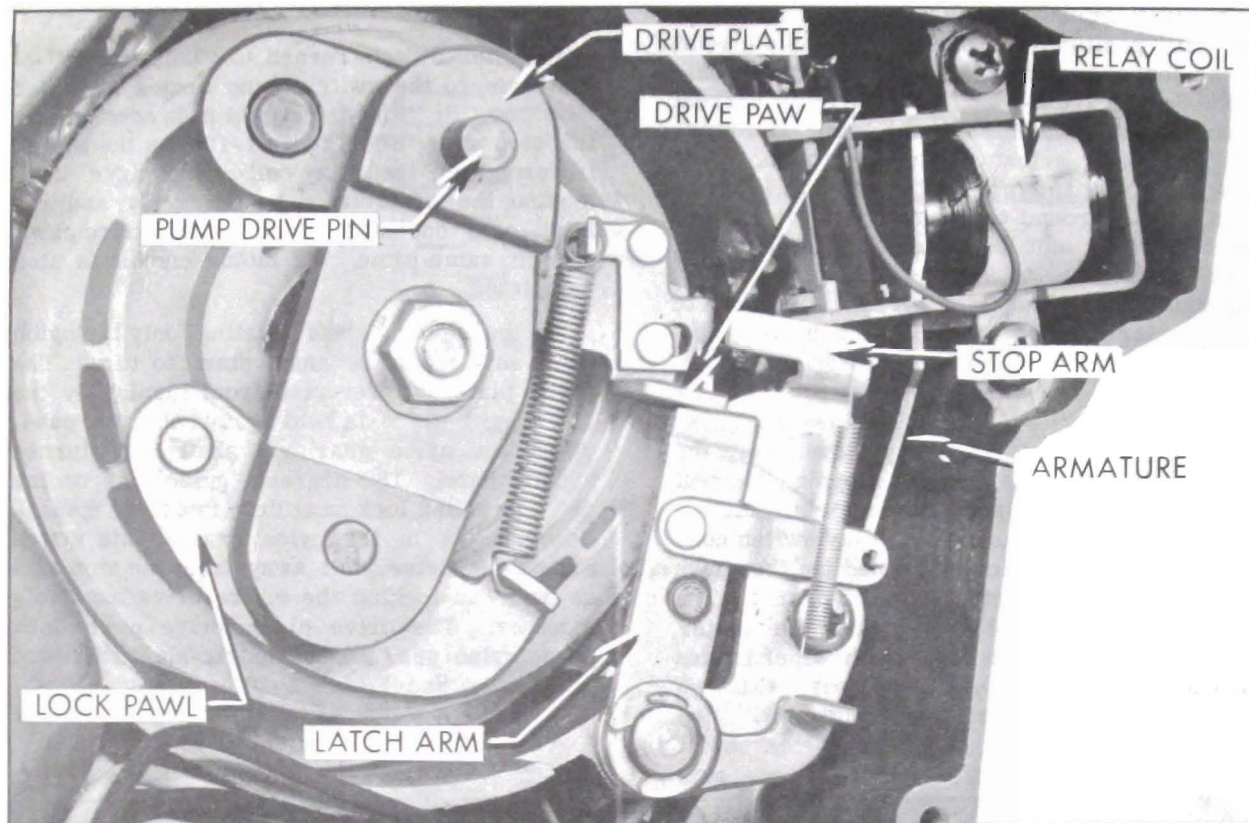

Figure 1-21—Drive Plate Stopped—Motor Running
b. Motor Switch Turned to Off-- As the switch is turned to the off position, the relay circuit is opened with the motor circuit remaining closed. The spring loaded latch arm moves out into the path of the drive pawl since the relay is no longer energized. When the drive pawl contacts the latch arm, the drive plate, drive pawl and lock pawl are held from rotating with the nylon gear and eccentric shaft continuing to rotate. See Figure 1-21. The guide pins in the drive pawl and lock pawl have been forced out of their pockets in the nylon gear.
The cam type action between the eccentric shaft and drive plate shaft makes the drive plate and related parts move outward toward the relay control switch as the nylon gear and shaft turn. The drive pawl then pushes against the relay control switch tab and opens the circuit to the motor. See Figure 1-21.